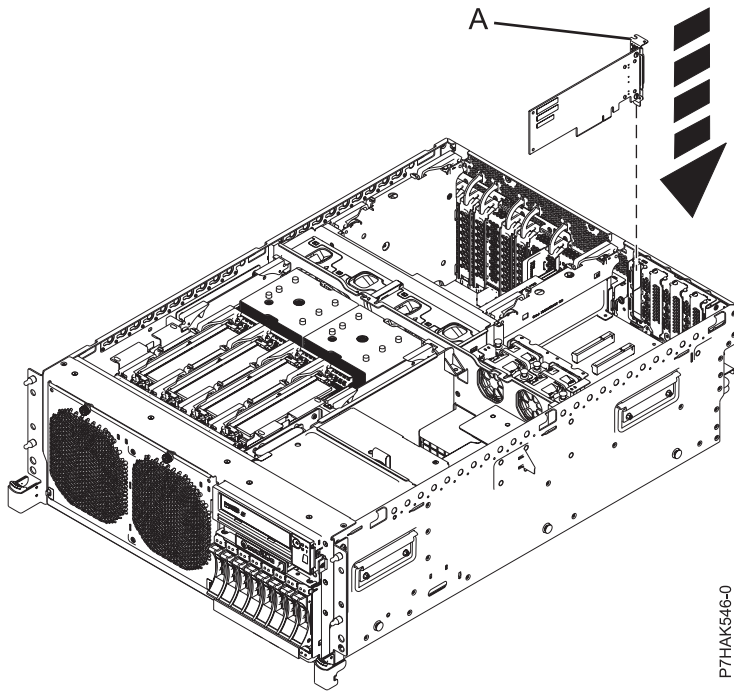
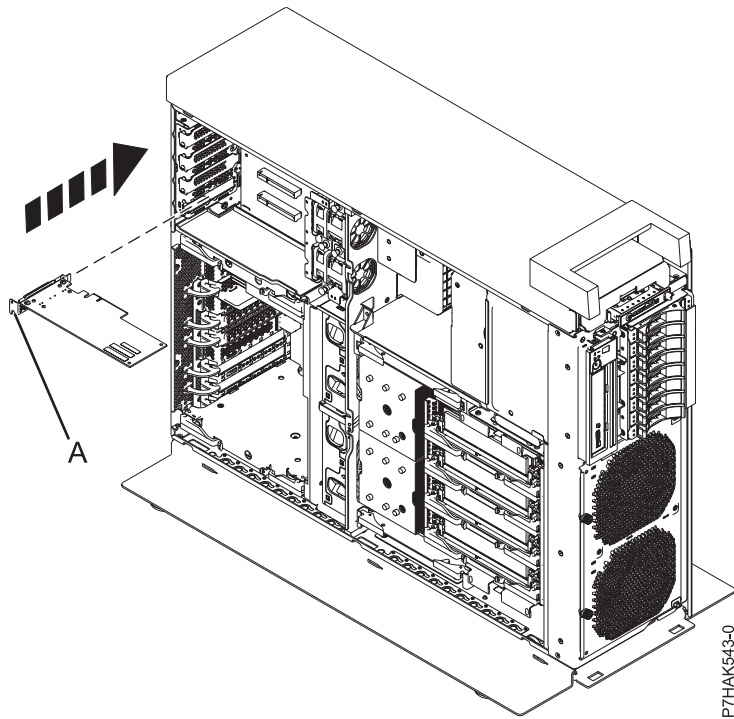

Figure 4. Installing a PCI adapter in a rack-mounted system unit's expansion riser
Figure 5. Installing a PCI adapter in a stand-alone system unit's expansion riser
18. If your system has an expansion riser, you can press the low profile PCI adapter into its slot by guiding it into position by its tailstock (A) and then pressing the adapter into its slot, as shown in Figure 4 on page 7 and Figure 5 on page 7.